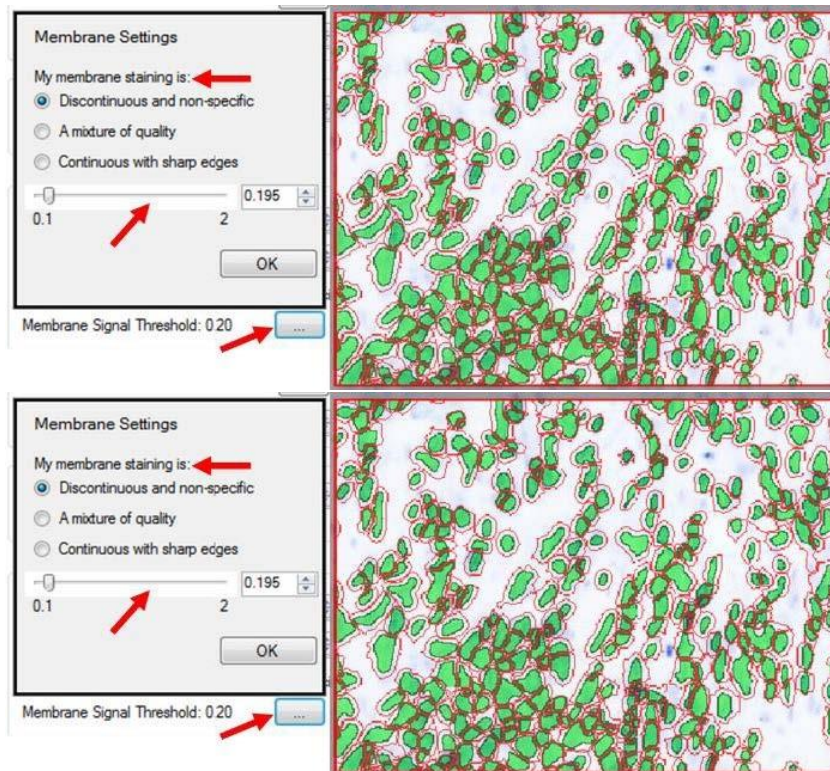

FIGURE G.11. Membrane Detection Threshold.
- ii. Moving the slider to the left (lower value) collects more signal from weaker membrane signals. (See Figure G.11.)